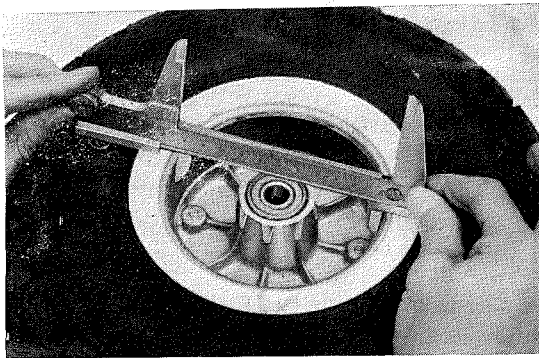

Fig. 57 Brake drum measurement
3. Check wear of brake drum using a caliper. (Fig. 57)